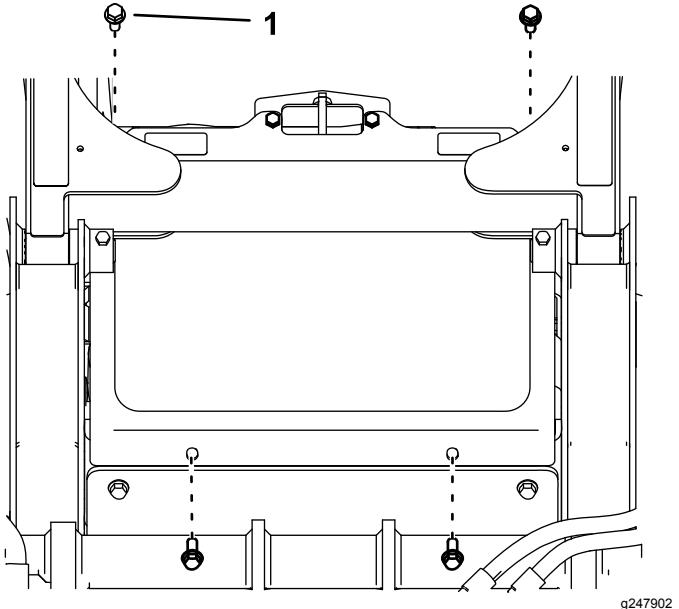

Figure 20
1. Install the front screen using the 4 bolts (3/8 x 1 inch) you removed previously (Figure 20).